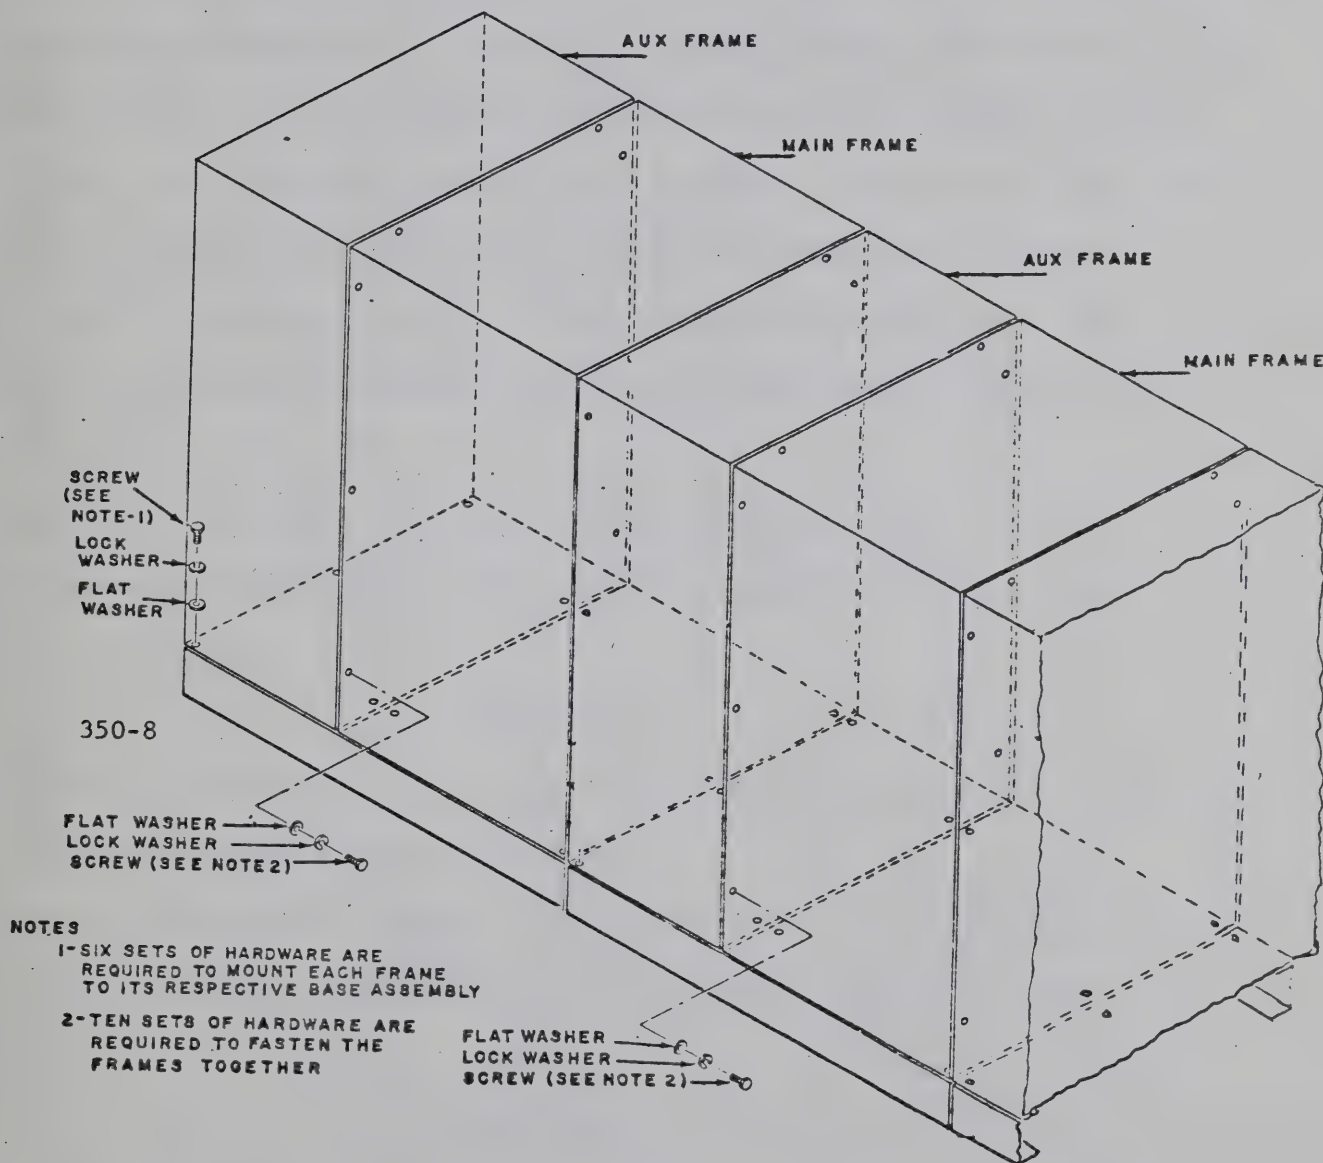

Figure 4-2. Auxiliary and Main Frames, Installation Diagram
- b. Position auxiliary frame on base assembly (see figure 4-2).
- b. Position main frame on base assembly (see figure 4-2).
- (1) Unscrew large slotted hex-head screws on the front panel.
- (2) Pull panel forward to clear frame.
- d. Using hardware from crate 1 (bag-frame to base mounting kit), loosely bolt auxiliary and main frames to base assembly (see figure 4-2).
- a. Using hardware from crate 1 (bag-frame to frame mounting kit), loosely bolt frames together (see figure 4-2).